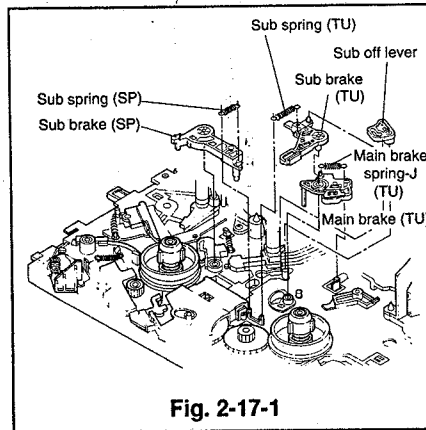

Fig. 2-17-1
- 2 Remove the sub brake(SP) and the sub spring(SP). (Refer to Para. 2-14 for the removal method.)
- 4 Remove the main brake spring J(TU) and raise the main brake(TU) upward to remove it. (Refer to Fig. 2-17-1.)